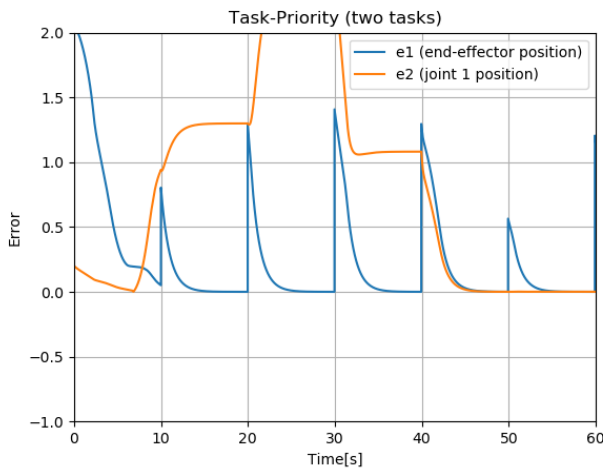

Fig. 5: Evolution of control error for End-Effector Priority
- The Fig.5: shows the **error evolution** over time for two tasks: